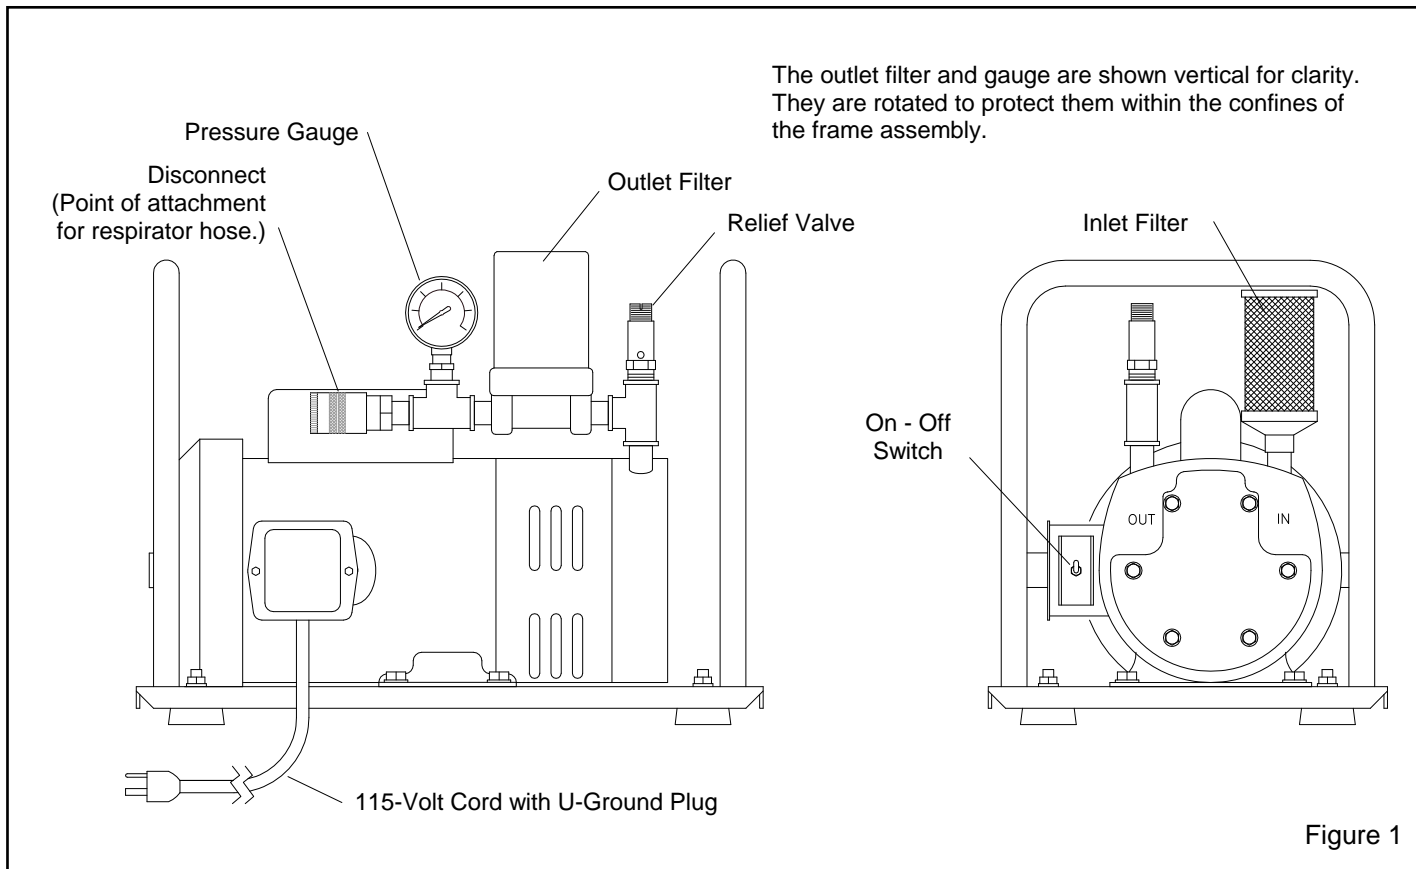

Figure 1
1.3.1 The CALIPSO Ambient Air Pump assembly is shown in Figure 1. It includes a 115-volt, 3/4 hp TEFC drive motor with supply cord and switch, an oil-less rotary vane pump unit, inlet filter, and outlet end plumbing consisting of a relief valve, pressure gauge, air filter, and disconnect. The (hose) disconnect is the attachment point for the respirator hose.